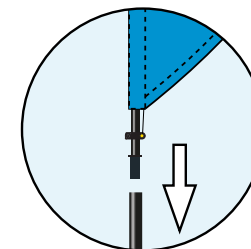

Fig 15.
12. Add the 2.5m (45mm) bottom section onto the joint of the top section. (Fig 15) Install the pole over the spigot on the base.